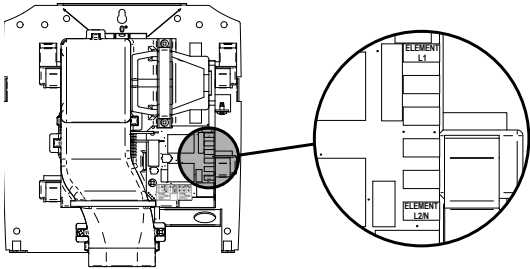

FIG.9
- Disconnect element from the electronic board. (FIG.9)